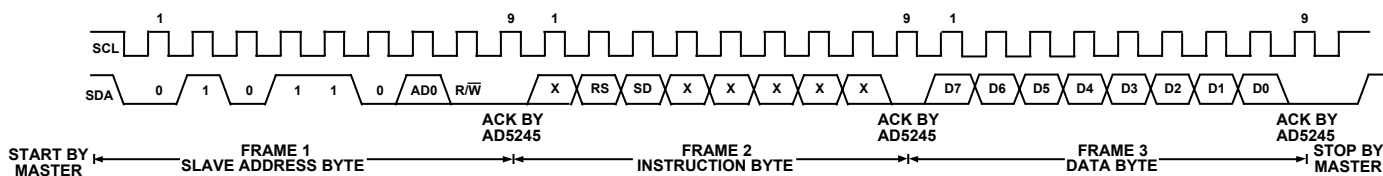
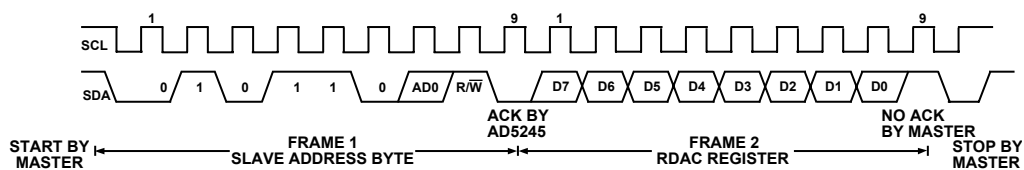

Figure 37. Writing to the RDAC Register
Figure 38. Reading Data from a Previously Selected RDAC Register in Write Mode
1. The master initiates data transfer by establishing a START condition, which is when a high-to-low transition on the SDA line occurs while SCL is high (see Figure 37). The following byte is the slave address byte, which consists of the 7-bit slave address followed by an $R/\overline{W}$ bit (this bit determines whether data will be read from or written to the slave device).
4. In the read mode, the data byte follows immediately after the acknowledgment of the slave address byte. Data is transmitted over the serial bus in sequences of nine clock pulses (a slight difference with the write mode, where there are eight data bits followed by an acknowledge bit). Similarly, the transitions on the SDA line must occur during the low period of SCL and remain stable during the high period of SCL (see Figure 38).
5. When all data bits have been read or written, a STOP condition is established by the master. A STOP condition is defined as a low-to-high transition on the SDA line while SCL is high. In write mode, the master will pull the SDA line high during the tenth clock pulse to establish a STOP condition (see Figure 37). In read mode, the master will issue a No Acknowledge for the ninth clock pulse (i.e., the SDA line remains high). The master will then bring the SDA line low before the tenth clock pulse which goes high to establish a STOP condition (see Figure 38).